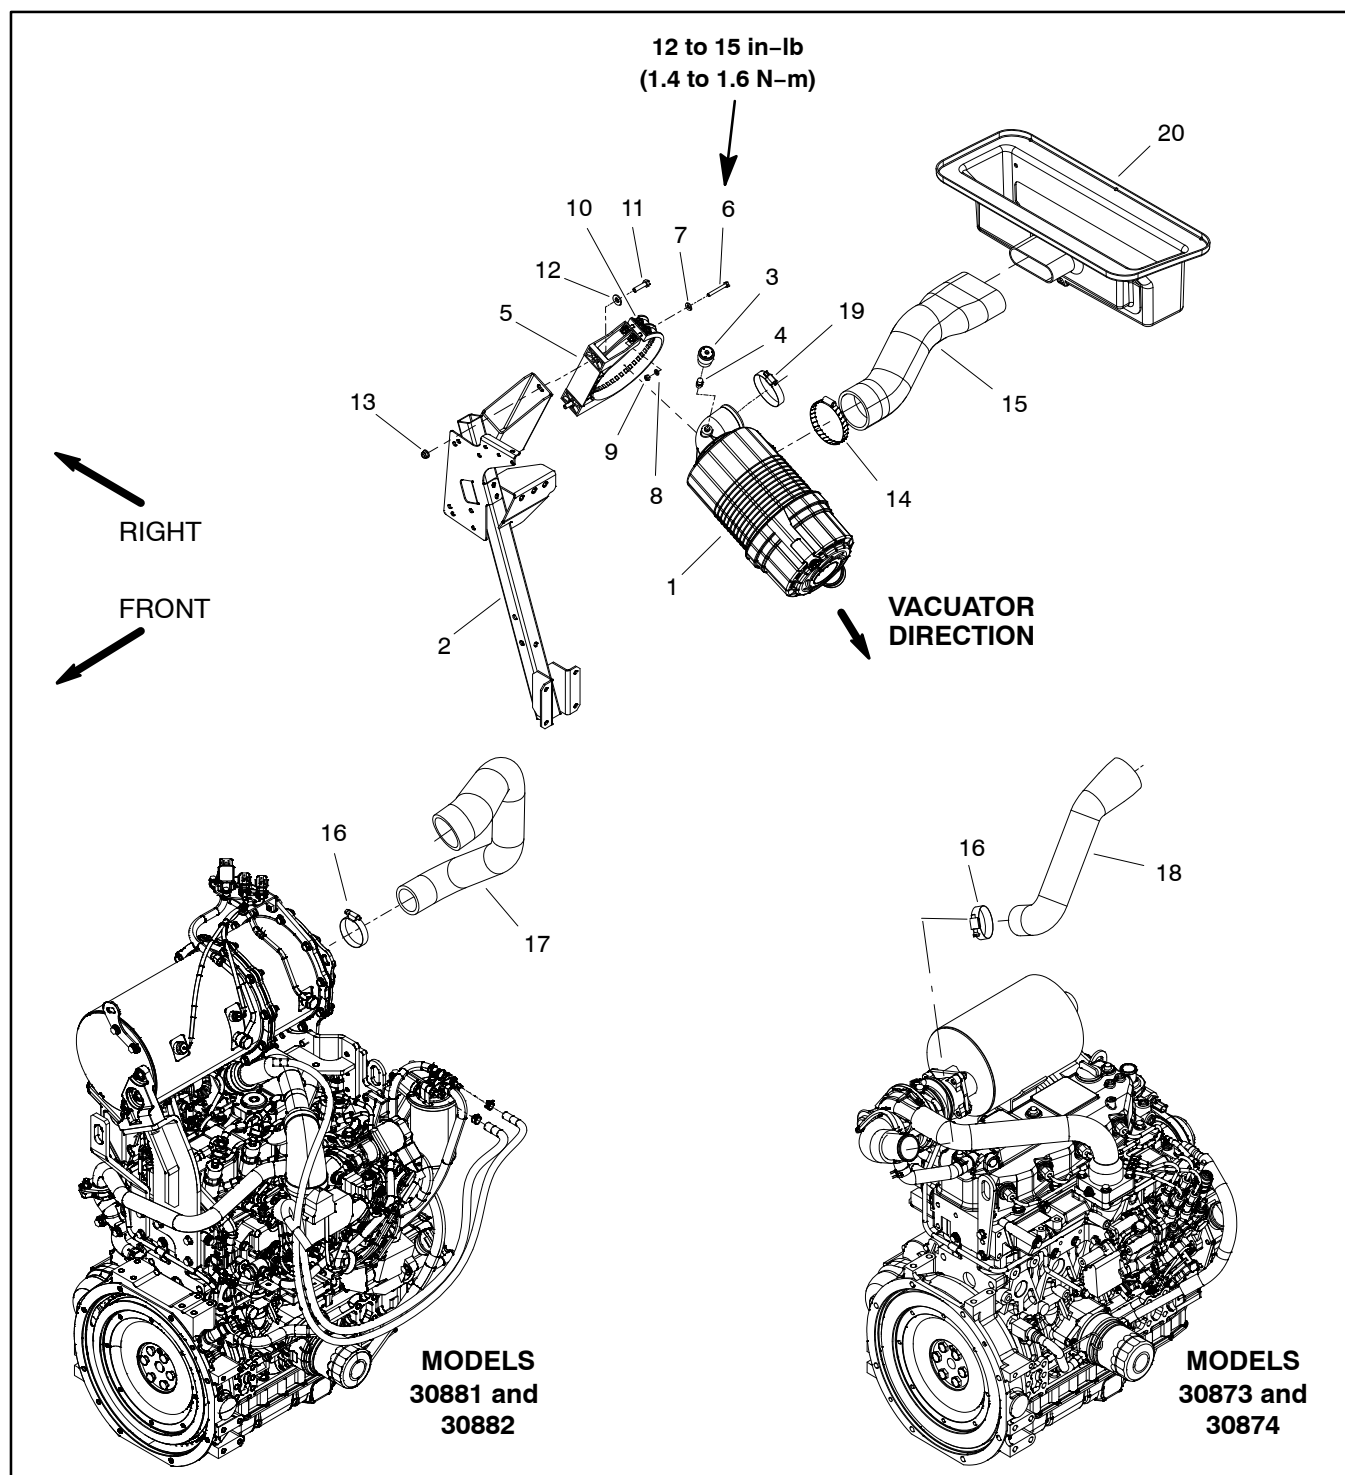
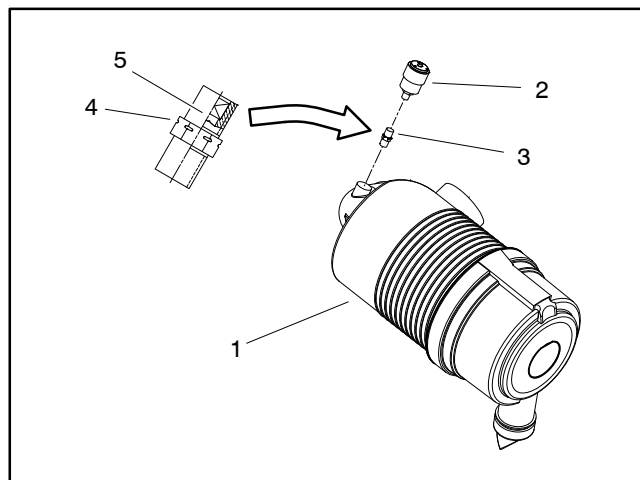

Figure 5
Figure 7
**Removal (Fig. 5)**
3. Remove air cleaner components as needed using Figure 5 as a guide.
**Installation (Fig. 5)**
1. Assemble air cleaner components using Figure 5 as a guide.
A. If service indicator (item 3 in Figure 5) was removed from air cleaner housing, apply thread sealant to adapter threads before installing adapter and indicator to housing. Install adapter so that grooves in adapter hex and adapter filter element are installed toward service indicator (Fig. 7). Torque indicator from **12 to 15 in-lb (1.4 to 1.6 N-m)**.
C. Make sure that air cleaner outlet hose (item 17 or 18 in Figure 5) does not contact any engine or machine components. To modify clearance, move and/or rotate air cleaner body in air cleaner strap. Verify that tabs in strap mesh fully with slots in air cleaner body.